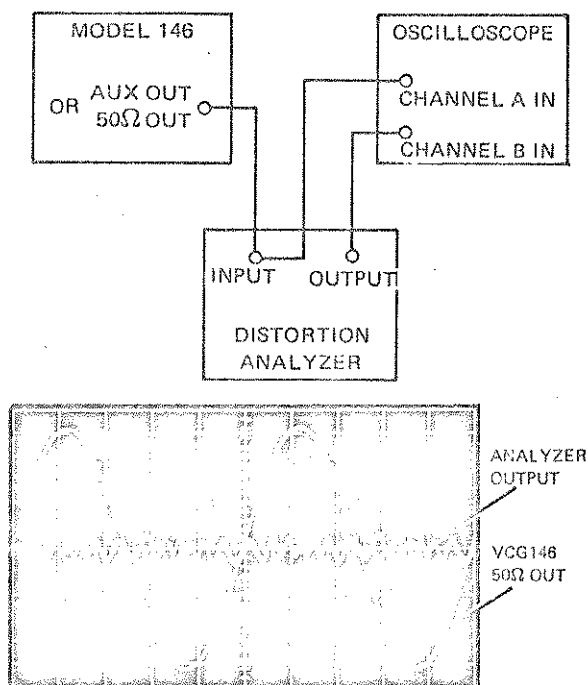

Figure 4-1. Distortion Analysis Test Set Up
4. Connect the test equipment as shown in Figure 4-1. Model 146 connects to the AUX OUT.
4. Connect the test equipment as shown in Figure 4-1. Model 146 connects to the 50 Ω OUT.
12. Connect the test equipment as shown in Figure 4-1.